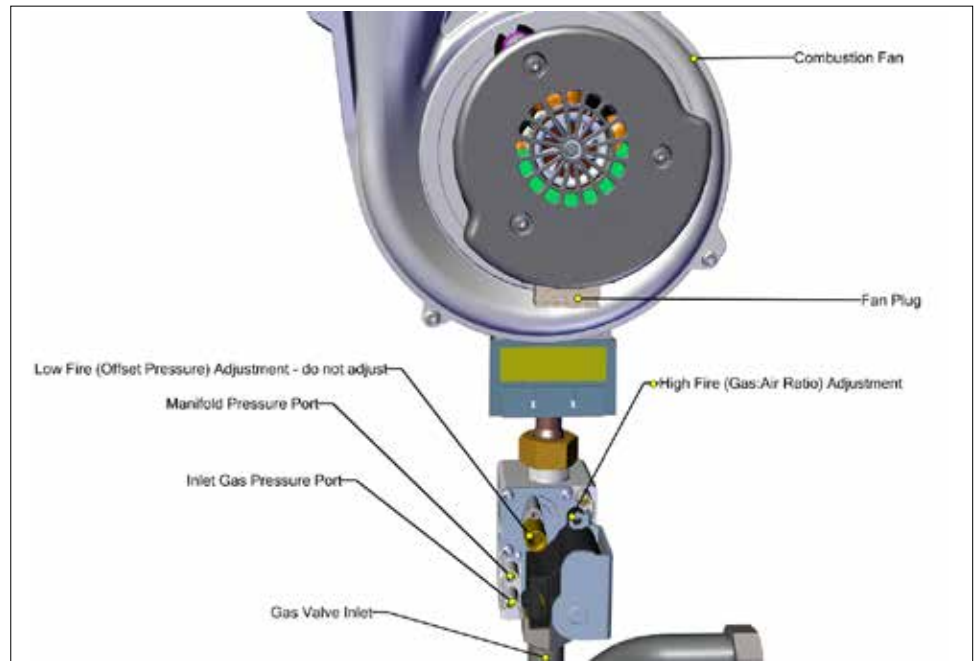

Figure 44: Gas Valve and Pressure Reference System
To verify the proper operation of the gas valve in the field, the following procedure must be carried out by a qualified technician (see *Figure 44* for details of the gas valve and pressure system).
3. With a combustion analyzer probe in the flue gas test port, turn the Gas:Air Ratio Adjustment screw (see *Figure 44*) to achieve results (see *Table 7* below for the corresponding CO₂ values - set the CO₂ target at high fire). This screw offers very fine adjustment, and may require several turns.